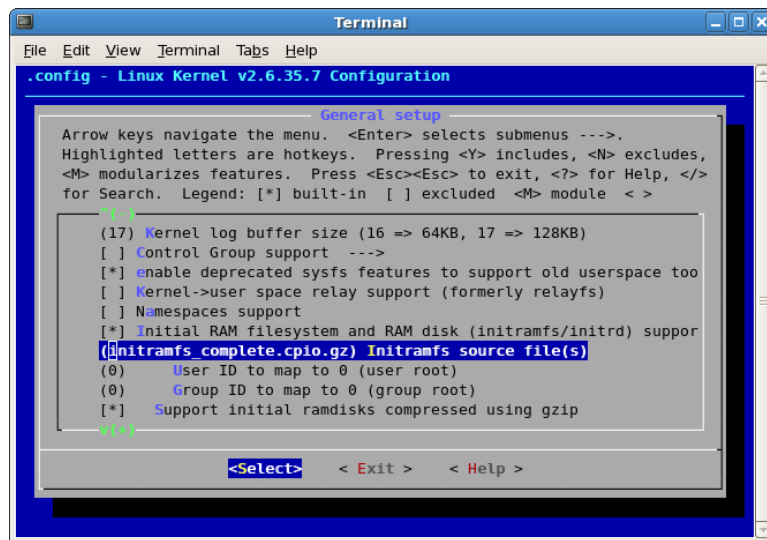

Figure 1: Use Complete RAM file system
- (d) Within the `'menuconfig'` window, select `'General setup'`. Scroll down to the bottom of the screen and change the `'Initramfs source file(s)'` field to `'initramfs_complete.cpio.gz'` (See Figure 1). When the kernel compiles, this setting will cause it to package the kernel with the complete RAM file system rather than the minimalistic one used last time.